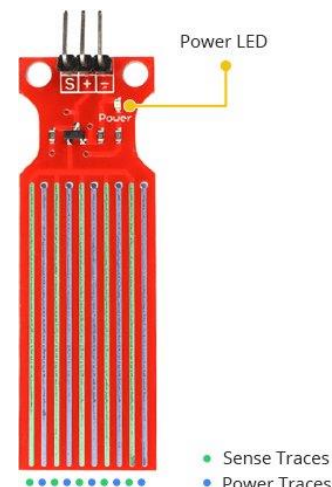
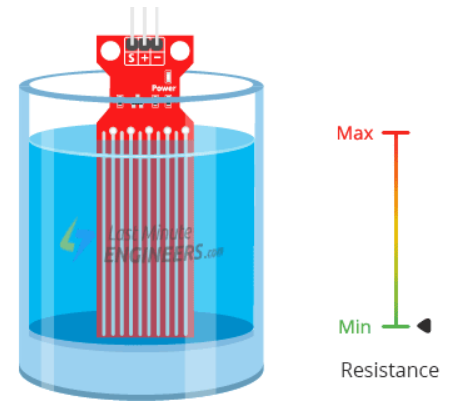

Figure 3 - Water Level (Rainfall) Sensor
Figure 4 - Water Level to Resistance Relationship
In the middle, and between the two basins, we have an electronic water sensor that we shall use to measure the level of the fallen rain. It detects the water by measuring the water's electrical conductivity. The sensor is made of 10 exposed vertical copper traces: five are power traces and five are conductive traces. The traces are placed in an alternating manner. When there is no water, then these traces are disconnected. When there is water, the water connects these traces. “The exposed parallel traces work as a variable resistor whose resistance is directly related to the water level. The sensor resistance is inversely proportional to the water level. When the sensor is fully immersed it shows the lowest resistance, thus indicating more height of the water. And when the sensor is partially immersed, it shows more resistance, and less conductivity, thus indicating less height in correspondence with the resistance. This variable resistance is directly related to the voltage appearing across the sensor. By measuring that voltage, we can detect the water level” [2]. Similar to the soil humidity sensor, the water sensor is powered by two pins  $V_{CC}$  (+) and GND (-). It has one analogue output S. **If the sensor outputs 0V, it means there is no water; therefore, it was not raining. The higher the voltage (up to 5V), means the higher level of rain fall. Assume that the maximum water level this sensor can measure is 50mm (5 cm).** A drawing of an actual sensor can be seen in Figure 3. An illustration of the relationship between the water level and sensor resistance is illustrated in Figure 4.
- Your rainfall sensor readings will also be interfaced to a LED barograph display to show the level of the water. The barograph is a set of LEDs as shown in Figure 3. The number of bars lit indicates a rainfall, each light represents 5mm.
Figure 3 – LED Barograph (a) An actual barograph module (b) Barometer indicating 10mm rainfall (in Proteus Simulator) (c) Barometer indicating 25mm rainfall (d) Barometer indicating 45mm rainfall